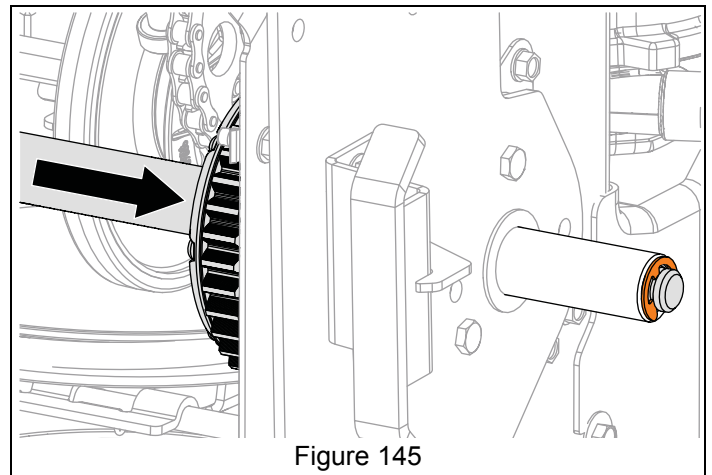

Figure 145
- Reinstall E-ring onto axle end. See Figure 145.